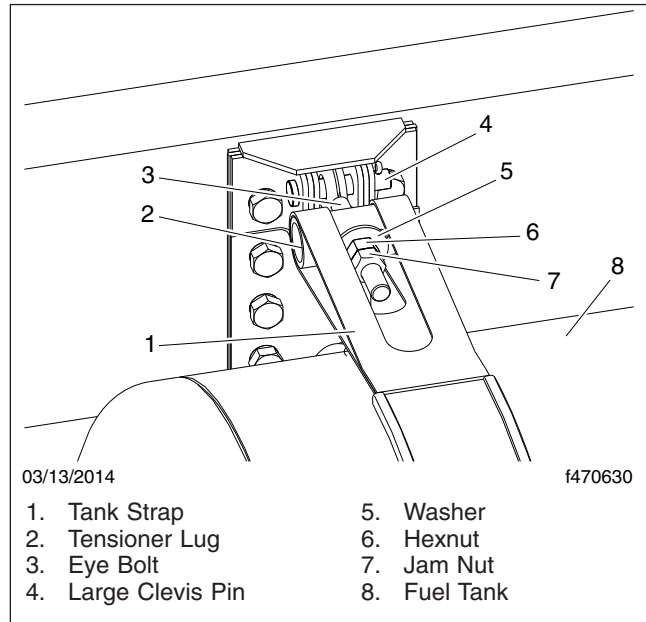

Fig. 4, Fuel Tank Band Assembly
8. Loosen the jam nut on each tank band eye bolt. Remove the jam nut, inner hexnut, and washer. See **Fig. 4**.